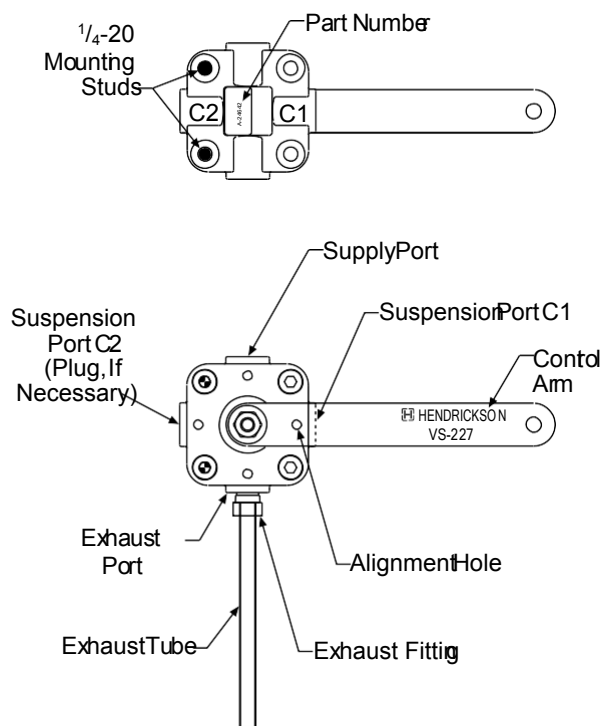

Figure 1. The Hendrickson non-delay height control valve
2. Ports C1 and C2 on the forward and rear face of the height control valve are the suspension ports. Attach the air line(s) from the air springs to the C1 and/or C2 port(s) (Figure 1).
4. Attach air supply line from the pressure protection valve to the supply port on the top of the height control valve (Figure 1).
5. Install the exhaust fitting into the exhaust port (Figure 1).
3. Insert the wooden centering dowel into the control arm alignment hole and engage into the housing (Figure 1).